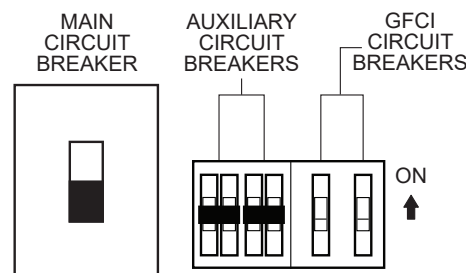

Figure 51. Main, Aux. and GFCI Circuit Breakers (ON)
- Place the **main**, **GFCI**, and **aux.** circuit breakers in the **ON** position (Figure 51).